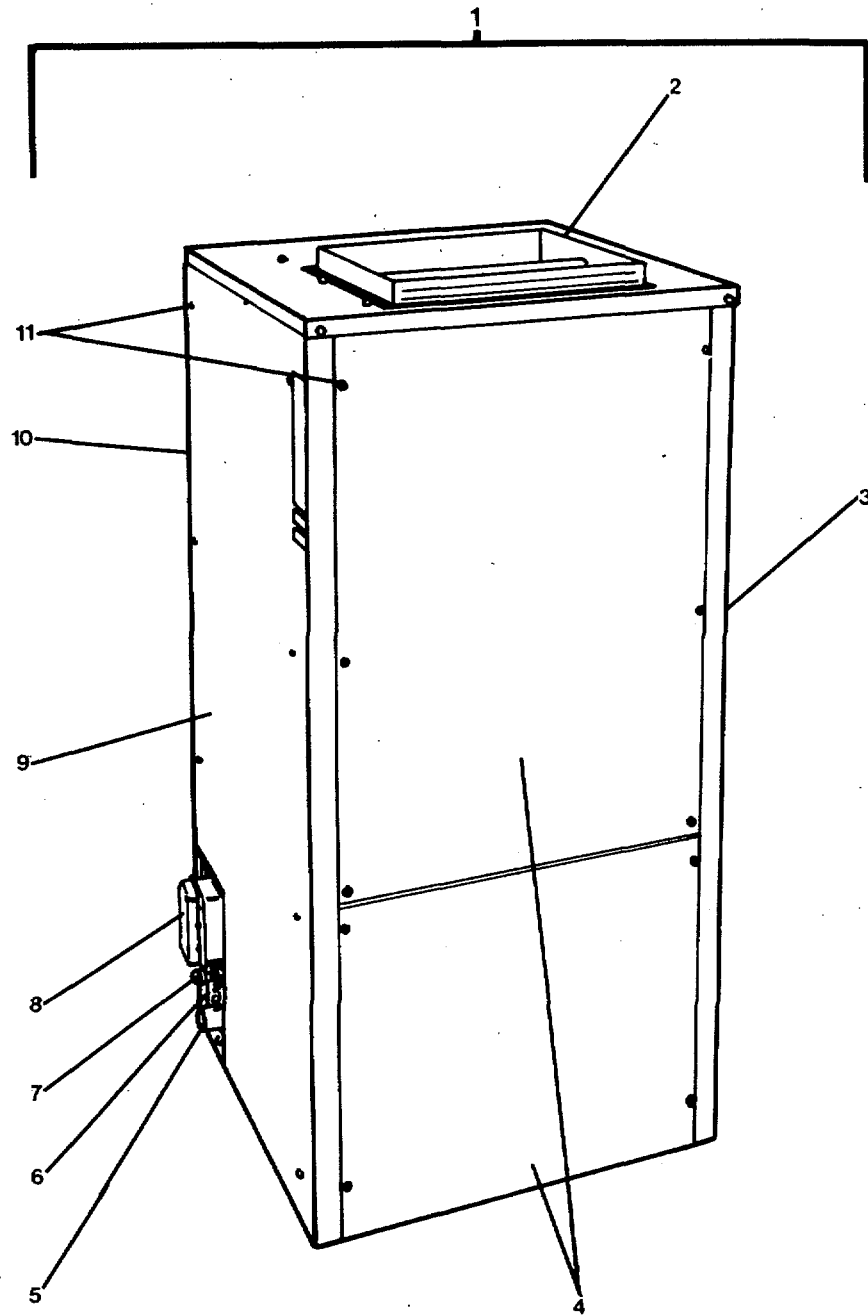
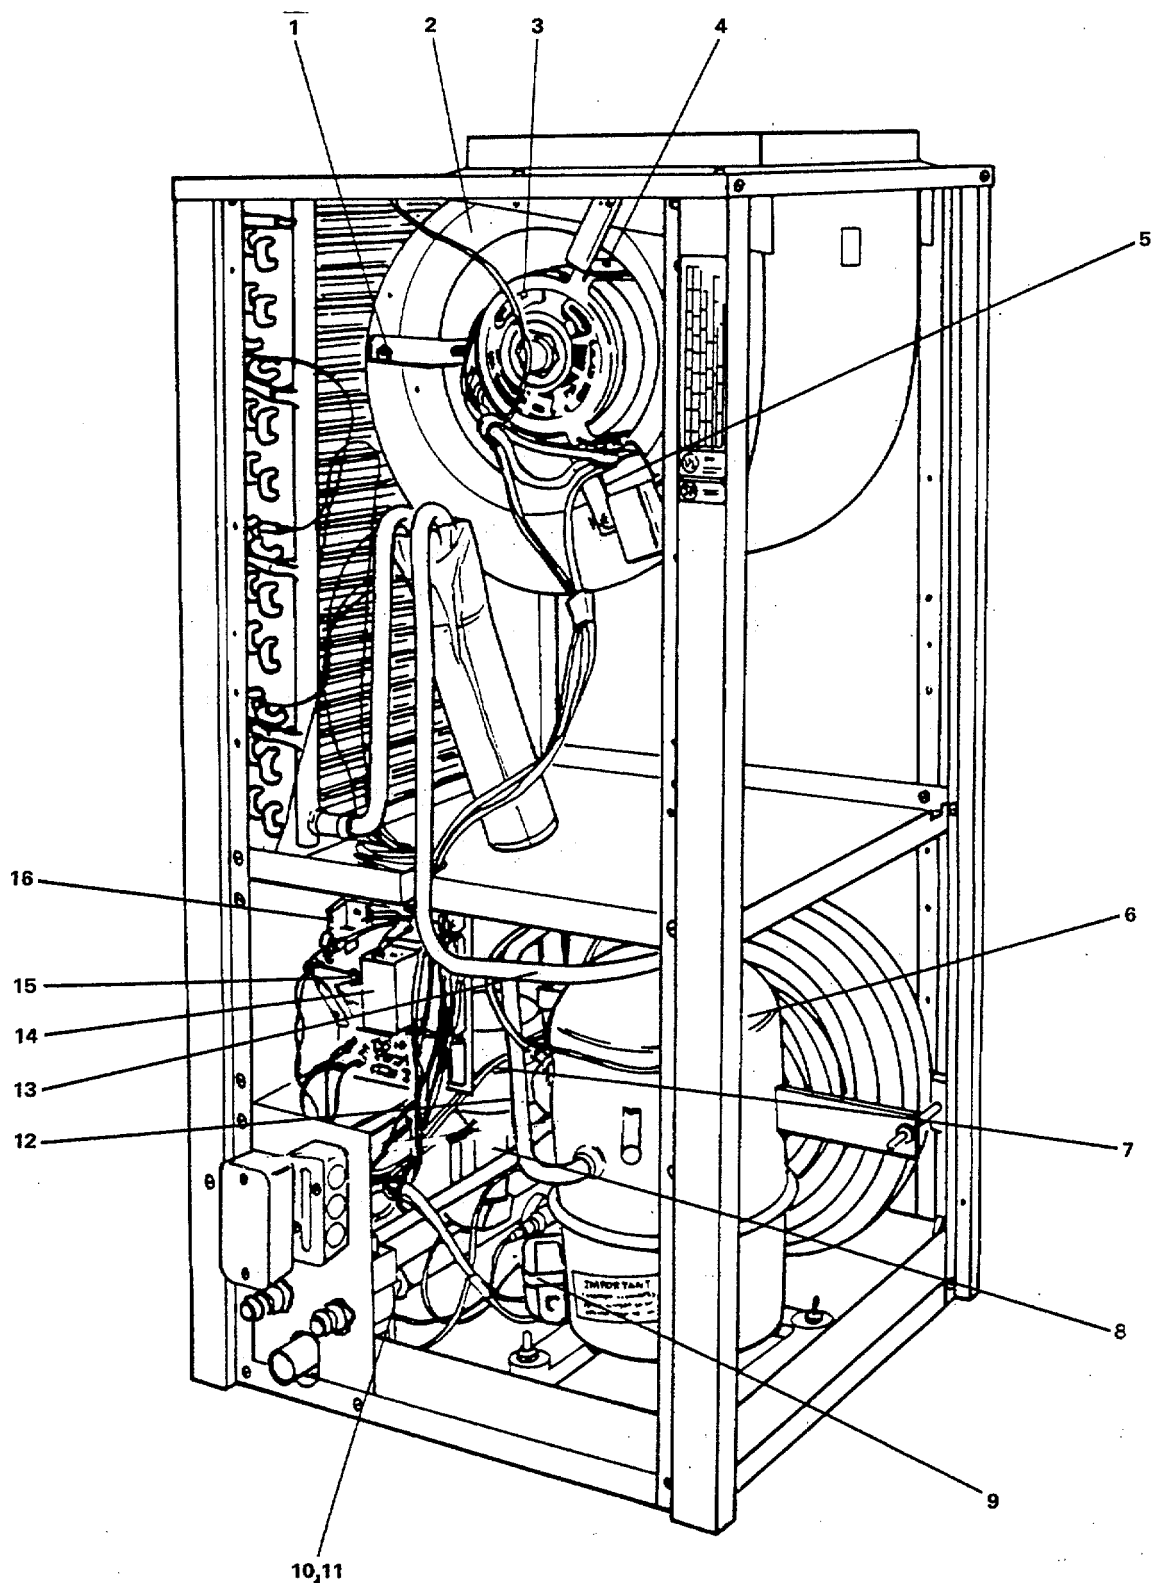
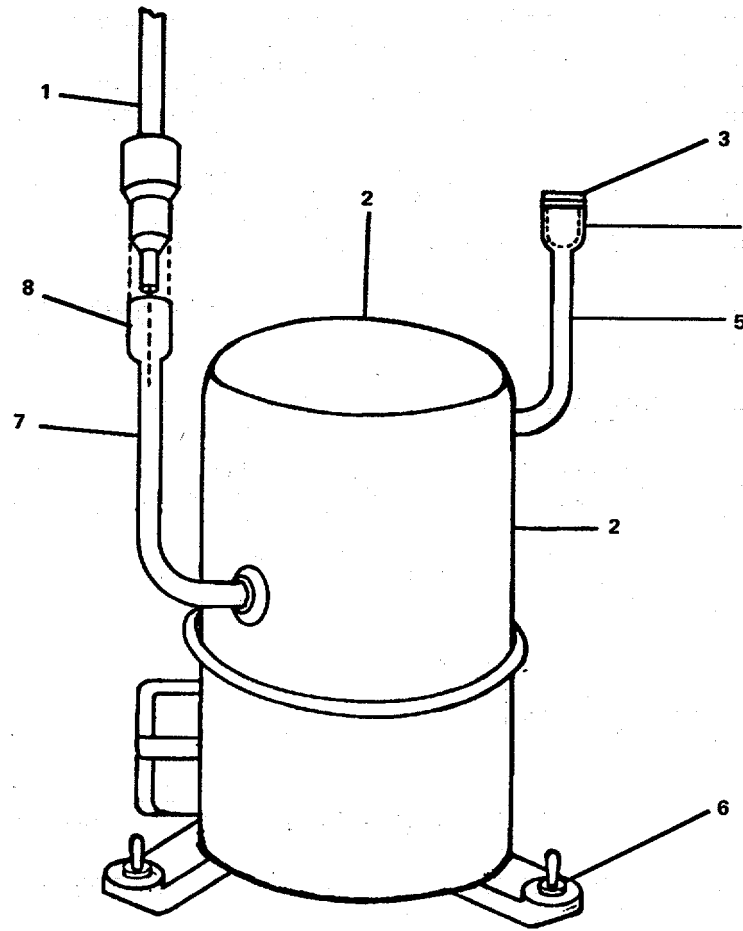

Figure 3-16. Self-Contained Air Conditioner (A/C-1 and 3)
Figure 3-17. Air Conditioner Components (A/C-1 and 3).
Figure 3-18. Swagging Compressor Tubing.
- a. Tag and disconnect electrical wiring from terminal box (8, FIGURE 3-16).
- c. Disconnect water outlet line connection (6).
- a. Remove panel screws (11, FIGURE 3-16) to remove side panels (3, 9) and/or front panel (4) for access to internal components.
- b. Replace contactor (15, FIGURE 3-17), transformer (16), or electromagnetic relay (17) as follows:
- (1) Tag and disconnect electrical wiring to defective component.
- (2) Remove defective contactor (15), transformer (16) or electromagnetic relay (17).
- (3) Install new contactor (15), transformer (16), or electromagnetic relay (17) as appropriate.
- (4) Connect electrical wiring to proper terminals on the new component.
- c. Replace capacitor (5) and blower motor (3) as follows:
- f. Replace water bypass (10) and water regulating valve (11) (see paragraph 1-17f) as follows:
- (1) Tag and disconnect electrical wiring from water bypass (10) and water regulating valve (11).
- (2) Close external seawater inlet and outlet valves.
- (3) Disconnect the seawater inlet and outlet connections (6, 7, FIGURE 3-16) and drain condenser.
- (4) Remove the water bypass and water regulating valves (10, 11, FIGURE 3-17).
- (5) Install water bypass and water regulating valves (10, 11).
- (6) Connect seawater inlet and outlet lines to connections (6, 7, FIGURE 3-16).
- (7) Open external seawater inlet and outlet valves.
- (8) Connect electrical wiring to proper terminals on water bypass and water regulating valves (10, 11, FIGURE 3-17).
- g. Replace compressor (6) as follows:
- (1) To remove compressor (6):
- (c) Measure the amount of discharge tubing (13) and suction tubing (12) that is attached and is not crimped to the new compressor to be installed.
- (d) Using the measurements taken in step (c) above, measure the discharge tubing (13) and suction tubing (12) on the compressor being removed. Measure away from compressor. Deduct 3/4 inch from each measurement and place a mark on tubing.
- (e) Use a tubing cutter and cut the discharge tubing (13) and suction tubing (12) at the points marked.
- (f) Remove the three bolts with rubber mounts (6, FIGURE 3-18) from the base of the compressor (2) and remove the compressor from the unit.
- (2) To install compressor (6, FIGURE 3-17):
- (b) If the tubing ends on new compressor are already swagged (4, FIGURE 3-18) and plugged, remove plugs (3) to release charge and continue with step h(2)(d) of this procedure.
- (d) Using the swagging tool (1, FIGURE 3-18) from the refrigerant tool kit, swag the tubing ends (4) and (8) on the new compressor to proper size so that the suction line and discharge line will fit.
- (e) Position new compressor (2) on unit and install mounting bolts with rubber mounts (6).
- (g) Position the end of discharge tubing (13, FIGURE 3-17) to be connected into the swagged fitting on the end of compressor discharge tubing.
- (h) Position the end of suction tubing (14) to be connected into the swagged fitting on the end of compressor suction tubing.